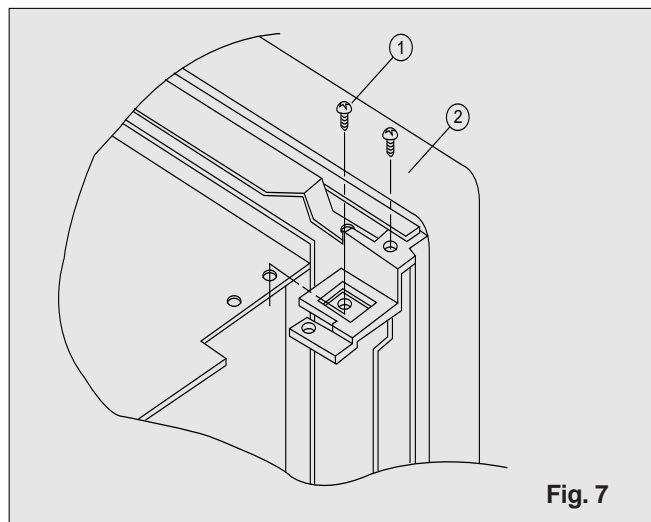

Fig. 7
6. To remove door assembly. (Refer to Fig. 7)